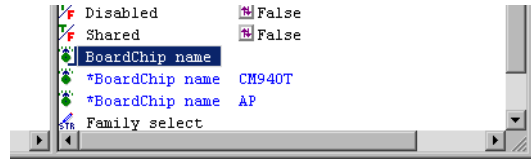

Figure 13-7 Linking a second board
4. Select the name of the required group, for example **CM940T**. You might have to select the **<More...>** option to find the group you require. A new entry is displayed in the right pane with an asterisk `*` beside it, shown in Figure 13-7 on page 13-10 (that is `*BoardChip_name CM940T`).